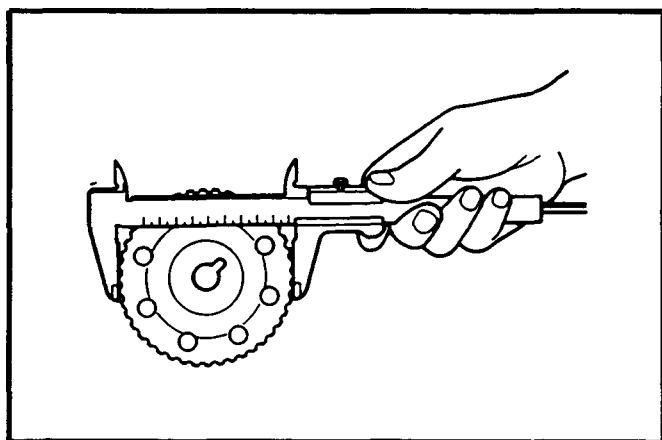

Figure 43.
4. Check the camshaft timing belt pulley for wear. See Figure 43.